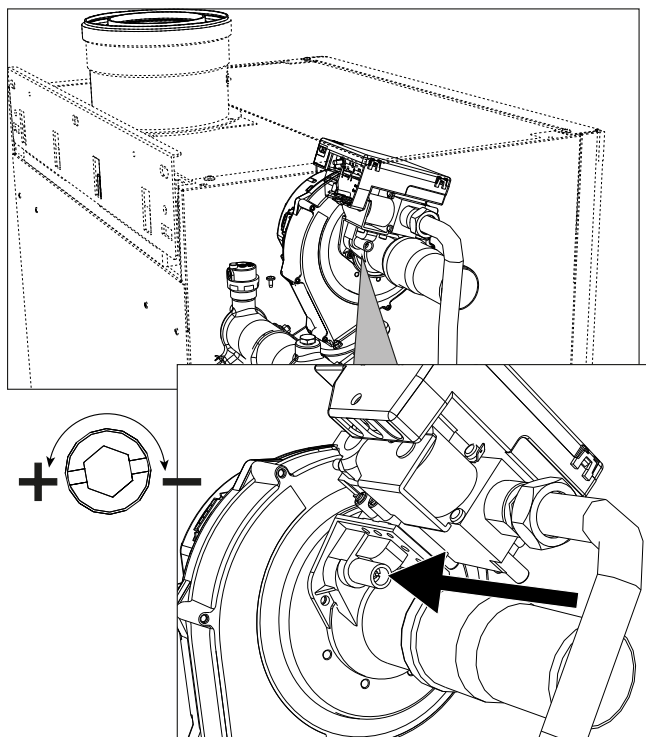
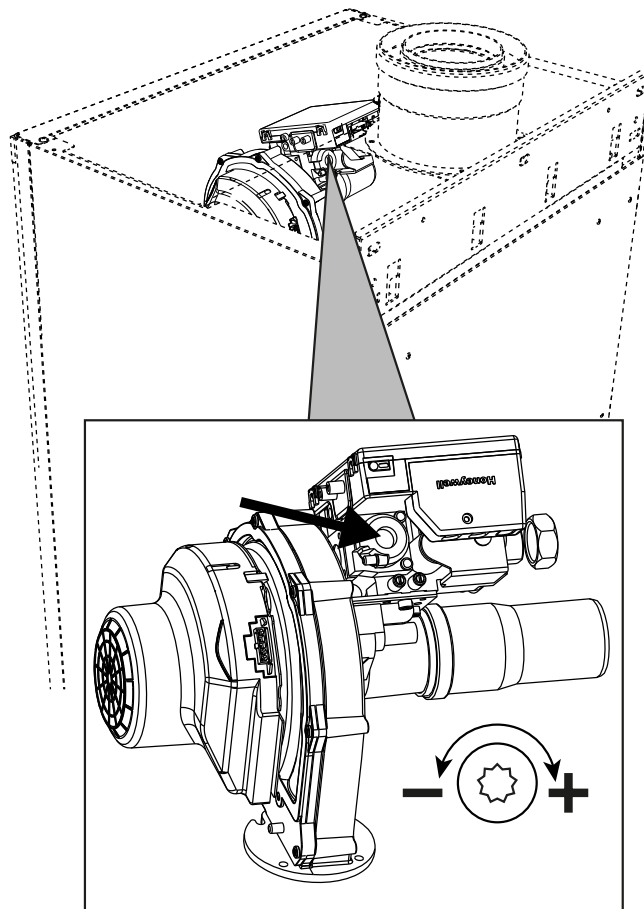
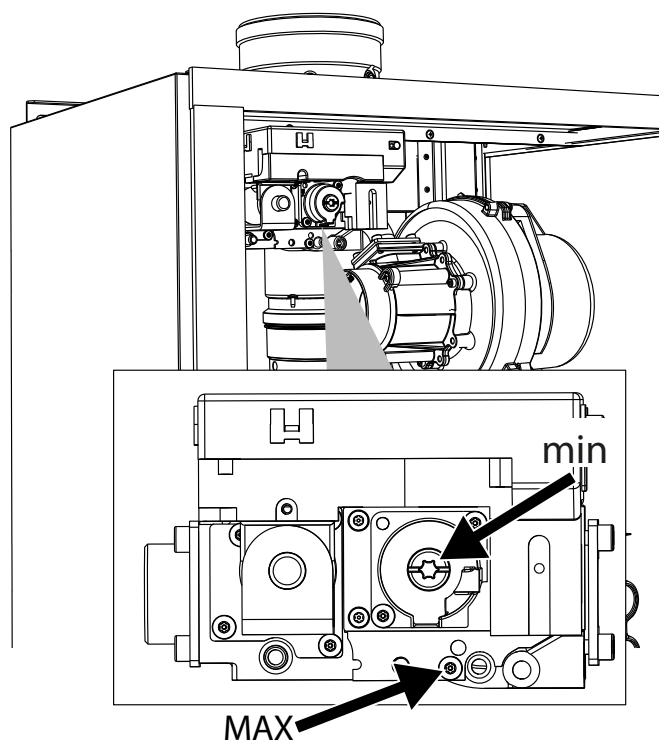

fig. 70- Maximum adjustment, models W 60 and W 80
fig. 71- Minimum adjustment, models W 60 and W 80
fig. 72- Maximum and minimum adjustment, models W 99, W 120 and W 150
- If the values are different from those indicated, with the maximum adjustment screw adjust the CO₂ to the CO₂ values indicated. See **fig. 70** for models **W 60** and **W 80** or **fig. 72** for models **W 99**, **W 120** and **W 150**.
- If the CO₂ values are different from those indicated, carefully adjust the minimum “OFFSET” screw, checking that the CO₂ is correct. See **fig. 71** for models **W 60** and **W 80** or **fig. 72** for models **W 99**, **W 120** and **W 150**.